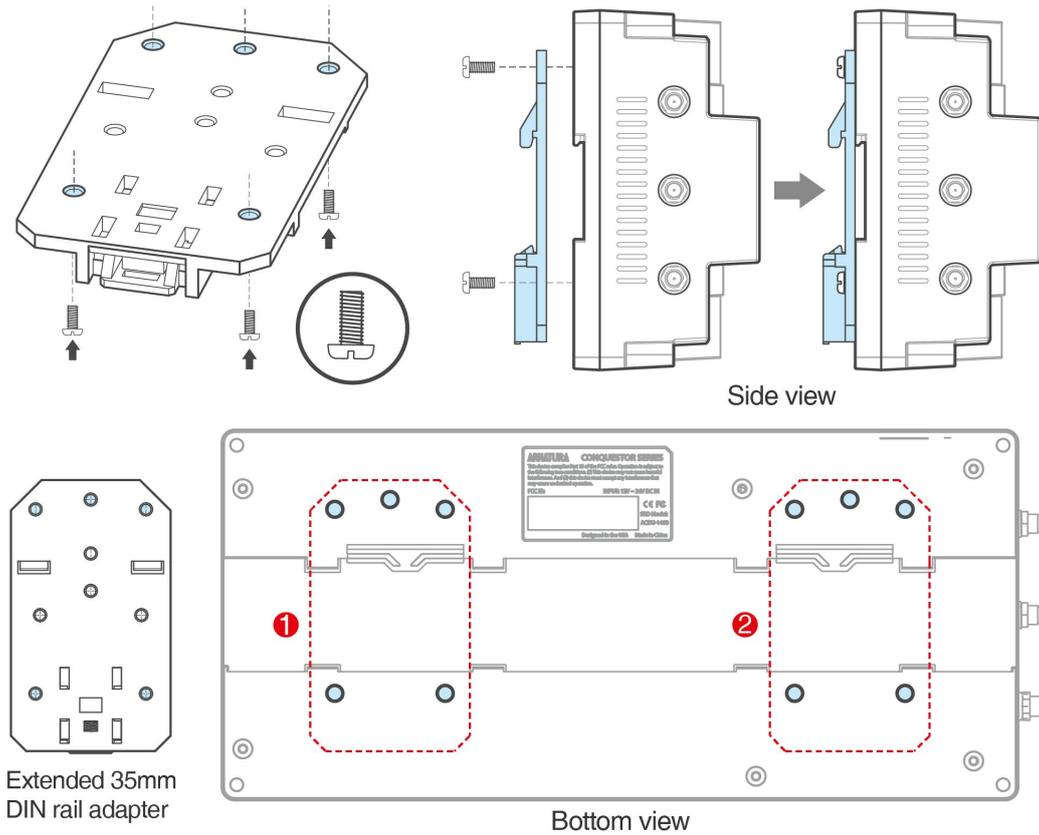

Figure 3-4 Mount the extended 35mm DIN rail adapters to the controller
2. Mount the two extended 35mm DIN rail adapters in the locations, as shown in **Figure 3-4** below.